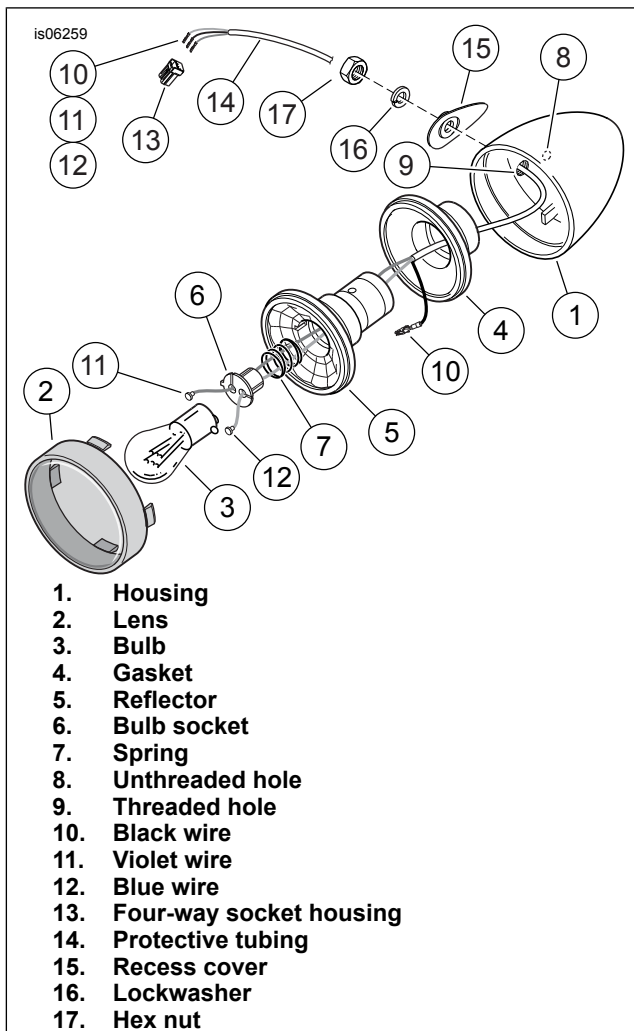

Figure 1. Stop/Tail/Turn Signal Lamp
10. Remove plastic cap (14) from rear hole in the fender.
11. See Figure 1. Remove the black (10), violet (11) and blue (12) wires and socket terminals from the STT socket housings (13). Set the STT lamps and socket housings aside for later installation.